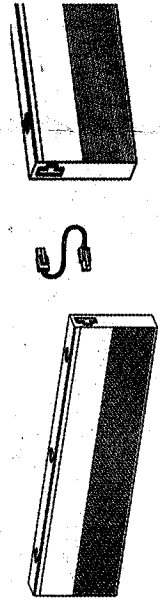

Fig.4
9. Fixtures may be joined together by using a linkable connector (extension cord) to create custom lengths. (Fig. 4)